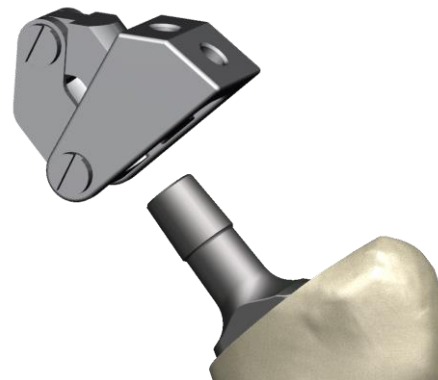

Figure 2: Stem extractor and hip stem
- Fold the *Stem extractor* as shown in Figure 2.